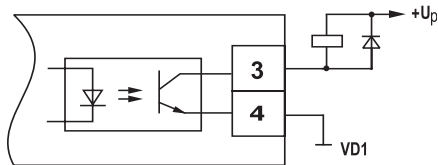

Figure 16.
3.1.10.1. Transistor optocoupler is used, as a rule, to control low-voltage (up to 50 V) relay. Connection diagram is given in figure16.